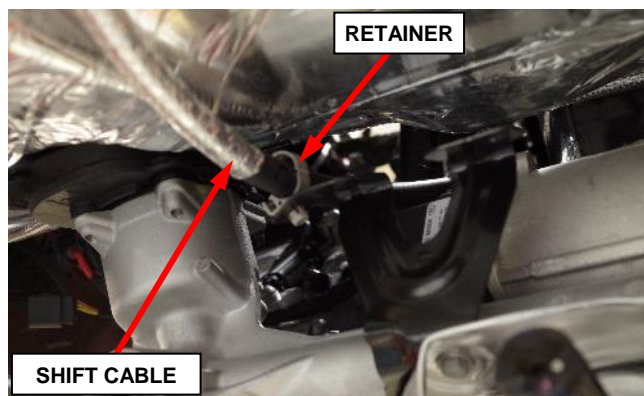

Figure 85 – Shift Cable Retainer
63. **FWD only:** Release the shift cable retainer from the steering gear heat shield bracket (Figure 85).
6. **FWD only:** Attach the shift cable retainer to the steering gear heat shield bracket (Figure 85).